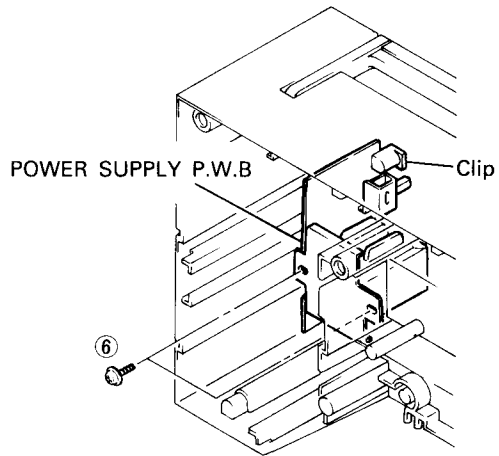

Fig.5
6. POWER SUPPLY P.W.B. (Fig. 5)